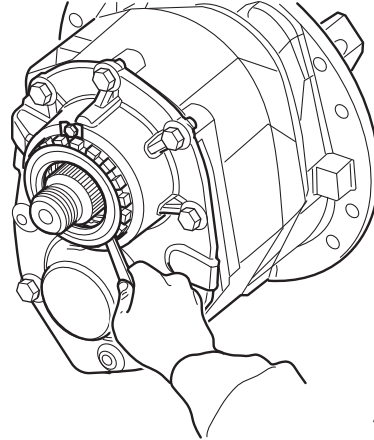
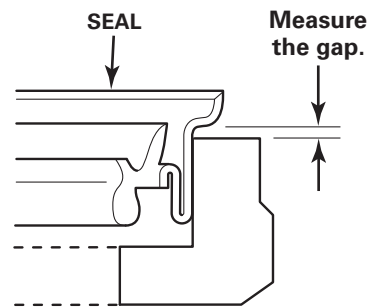

Figure 20
Figure 21
- Install the new seal into the adjusting ring using Meritor seal driver 2728T1 and a dead blow hammer until it is completely seated. Refer to the Seal Replacement Procedure for complete instructions. When correctly seated, there should be less than a 0.010-inch (0.25 mm) gap between the seal flange and adjusting ring. Use care to keep the seal lips clean during this step and the rest of the procedure. Figure 21.
6. Use a feeler gauge to check the gap between the seal and the adjusting ring. The seal is correctly installed if the gap is less than 0.010-inch (0.25 mm) around the circumference of the seal flange. Figure 20 and Figure 21.